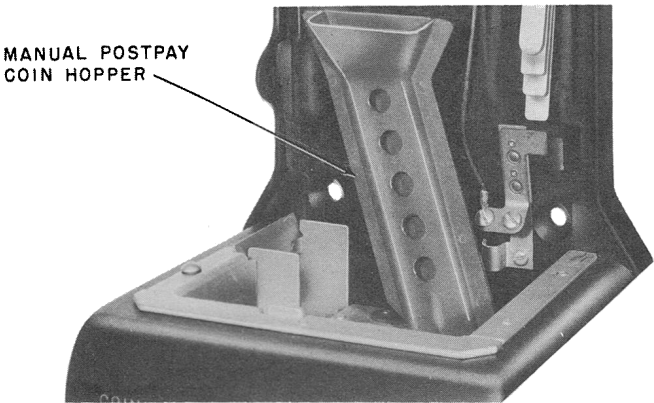

Fig. 27 — Manual Postpay
- Manual postpay, no coin relay (Fig. 27).